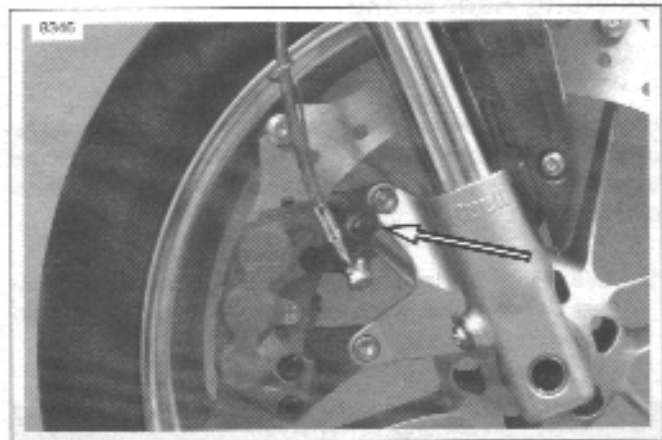

Figure 1-6. Front Caliper Bleeder Valve
1. See Figure 1-6. Install end of plastic tubing over front caliper bleeder valve; place other end in a clean container. Stand motorcycle upright.